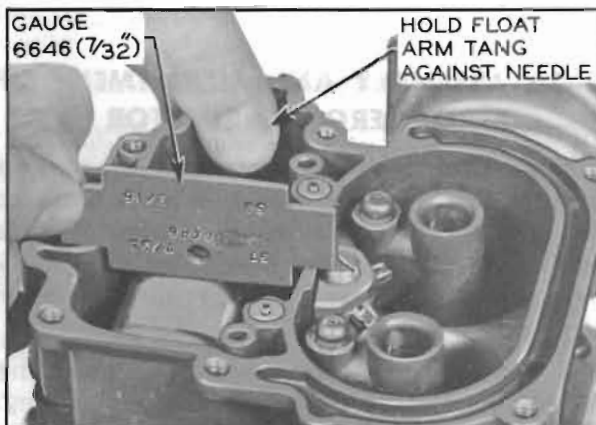

Figure 3-73—Float Level Adjustment
9. Hold float arm tang against float needle; then check float level using $\frac{7}{32}$ " side of Gauge 6646 (without gasket). See figure 3-73. If top of float is not specified distance below top edge of float bowl, adjust by bending float arm tang. Be sure float is centered so it does not rub walls of bowl.